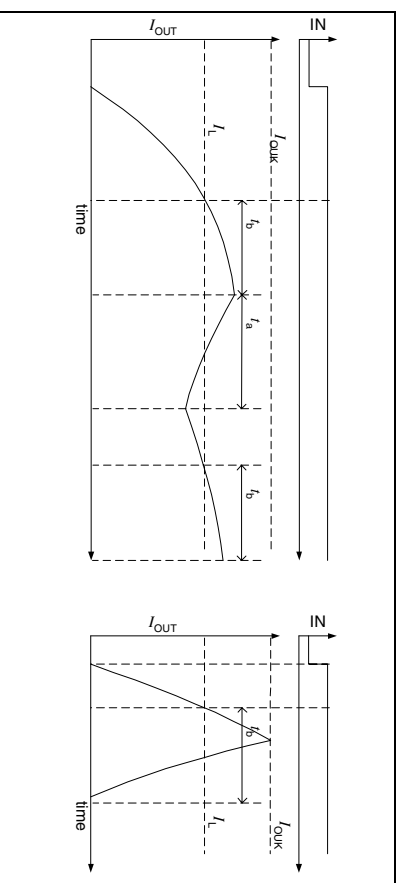

Figure 5 Short to V_S detection. Left: normal operation. Right: short circuit is detected
Due to the chopper current regulation, the low-side switches are already protected against a short to the supply voltage. To be able to distinguish a short circuit from normal current limit operation, the current limitation is deactivated for the blanking time t_b after the current has exceeded the current limit threshold I_L . If the short circuit detection current I_{OUC} is reached within this blanking time, a short circuit is detected (see Figure 5). All output transistors are turned OFF and the according error bit 'Short Circuit to Battery on output 1 (2)', SCB1 (SCB2) is set.